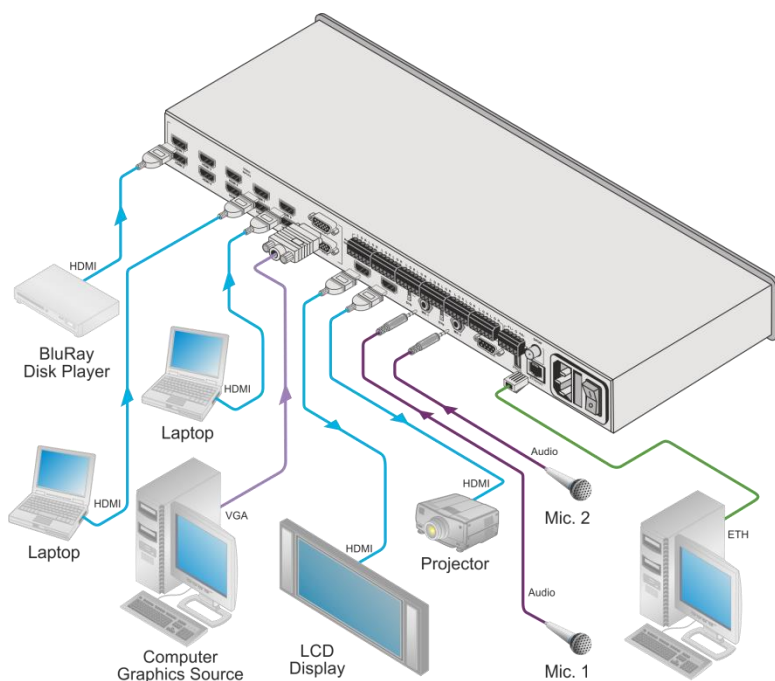

Figure 3: Connecting the VP-444 Presentation Switcher / Scaler
To connect the **VP-444**, as illustrated in the example in Figure 3, do the following:
3. Connect the audio input signals to the AUDIO IN terminal block connectors, as required (not shown in Figure 3).
5. Connect the audio output signals to the OUT stereo analog audio acceptor and/or the digital audio acceptor, as required (not shown in Figure 3).
6. Connect the power cord (not shown in Figure 3).